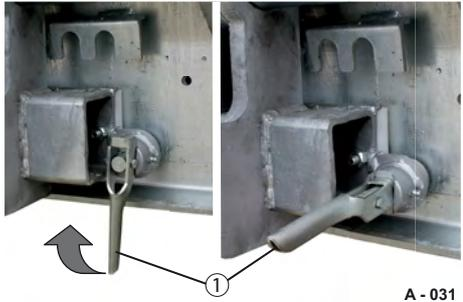

Fig. 83 Unlocking the track width notches
- ▶ Pull the spring lever (Fig. 83/1) into the horizontal position.